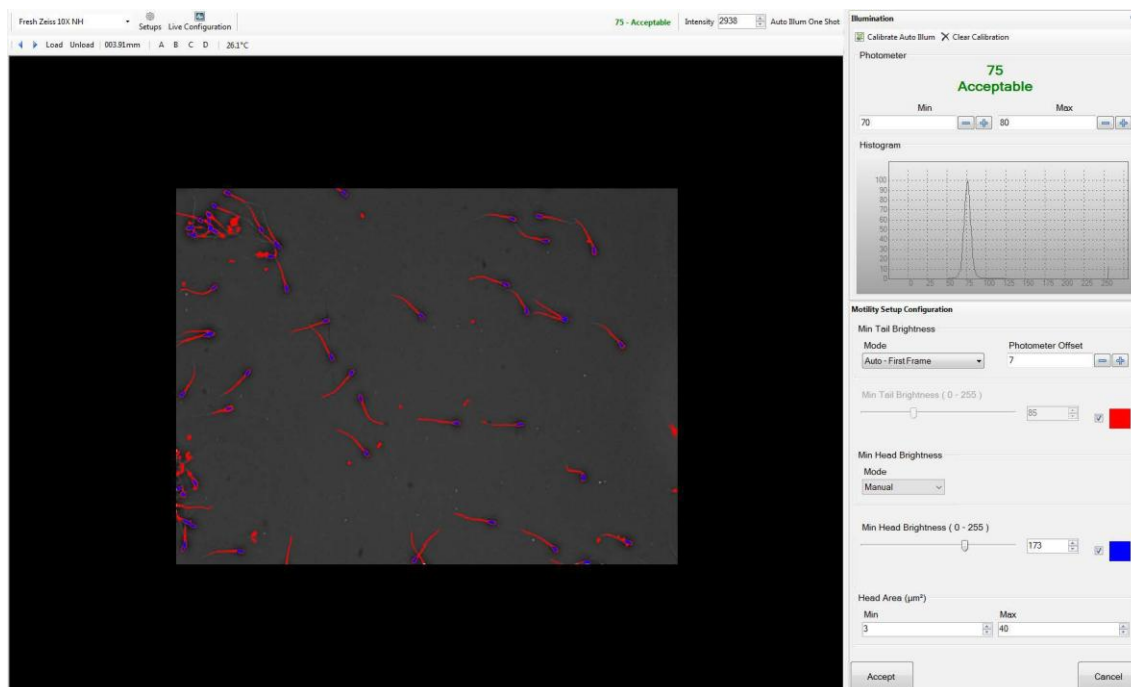

Figure 6-1: Live Setup Configuration Screen
8. Optimize the focus so that sperm show blue heads and long red tails (see Figure 6-1). In addition to the focus knob, focus may be adjusted using the **Focus** buttons on the **Stage Toolbar** or the mouse scroll wheel (when mouse is positioned over the image area).
The correct settings are essential for accurate identification of sperm. The goal is to achieve a sample image with blue sperm heads and red sperm tails (see Figure 6-1). Normally, the procedure to optimize the limiting controls on the **Live Setup Configuration** screen will only be necessary when the system is initially installed and should be performed by the system administrator.
2. Select **Live Setup Configuration** to open the screen (see Figure 6-1).